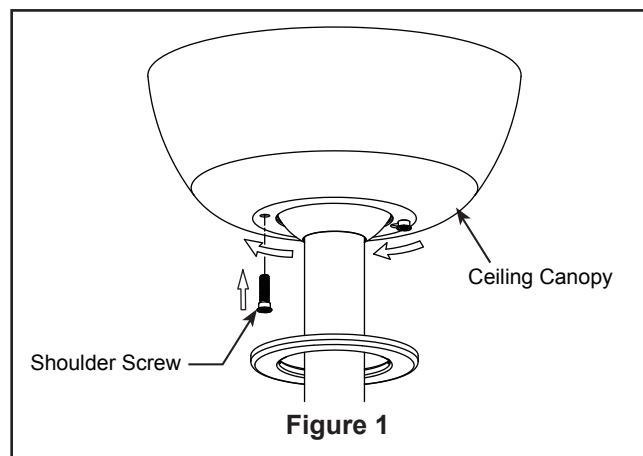

Figure 1
- ☐ 1. Assemble canopy by rotating key slot in canopy over shoulder screw in hanger bracket, taking care not to pinch the wires. Fully assemble and tighten second shoulder screw that was previously removed, then tighten the other shoulder screw. (Figure 1)
- ☐ 1. Connect the 2 single pin connectors from the light kit assembly to the 2 single pin connectors from motor assembly and twisting in a clockwise direction. (Figure 1)